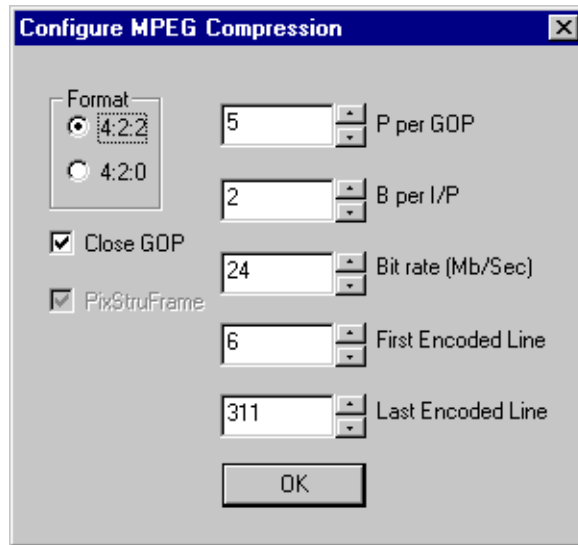

Figure 112. Setting MPEG compression
7. If you selected an MPEG encoder, a dialog box appears similar to the one shown in Figure 112. Make appropriate compression settings for your recordings and click **OK**.